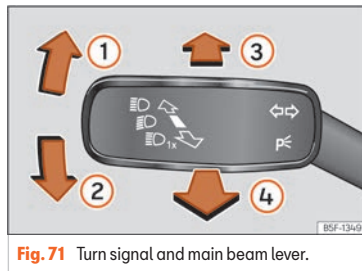

Fig. 71 Turn signal and main beam lever.
- From the base position, press the turn signal and main beam headlights lever forwards >>> **Fig. 71 ③**.
- **EITHER:** if main beam assist is on, pull the turn signal light and main beam headlights lever back >>> **Fig. 71 ④**.